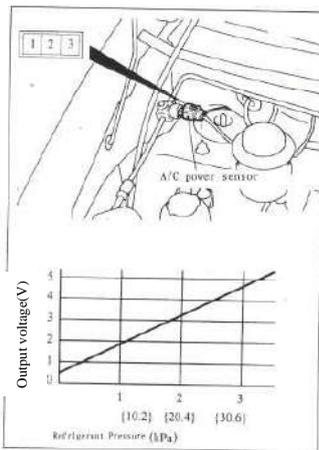

Fig.21-4
- (1) Install a gauge manifold to the high-pressure side service valve of the refrigerant line.
- (2) Start the engine and operate the system.
- (3) Check the voltage between between the pressure sensor terminal 2 and earth. The standard value is shown in Fig.21-4